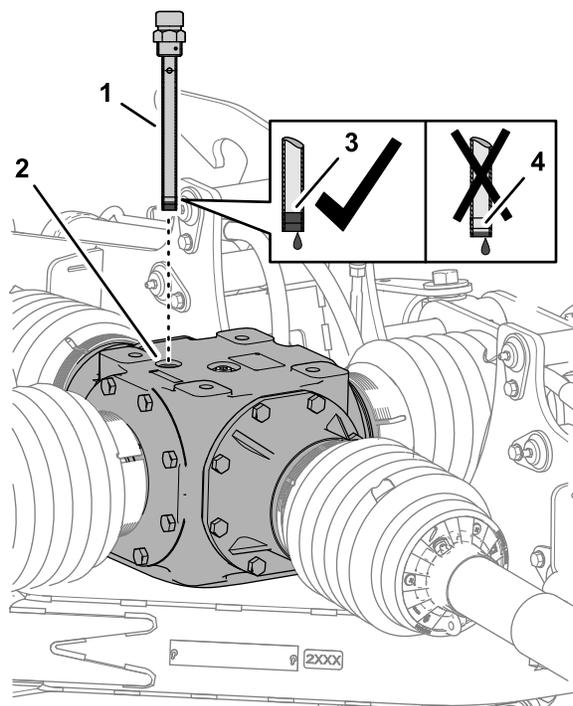
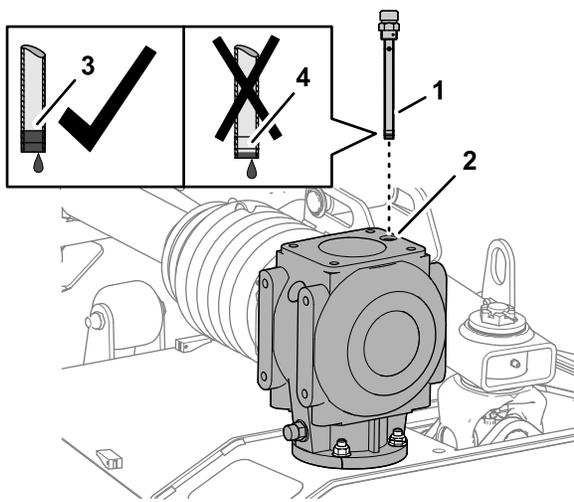

Figure 57
Figure 58
1. Remove the dipstick from the dipstick port at the top of the center gearbox (Figure 57 or Figure 58).
2. Check the fluid level indicated on the dipstick (Figure 57 or Figure 58).
4. Thread the dipstick into the fill port and tighten the dipstick (Figure 57 or Figure 58).